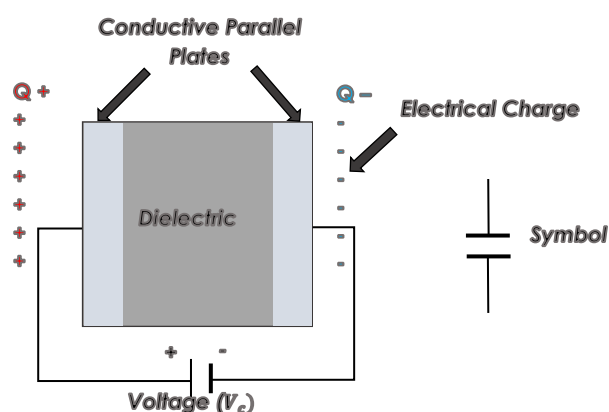

Figure 4. Basic parts of a capacitor
The amount of charge (Q) a capacitor can store depends on two major factors- *the voltage applied and the capacitor's physical characteristics, such as its size*. It is easy to see the relationship between the voltage and the stored charge for a parallel plate capacitor, as shown in Figure 4. Each electric field line starts on an individual positive charge and ends on negative one, so that there will be more field lines if there is more charge.